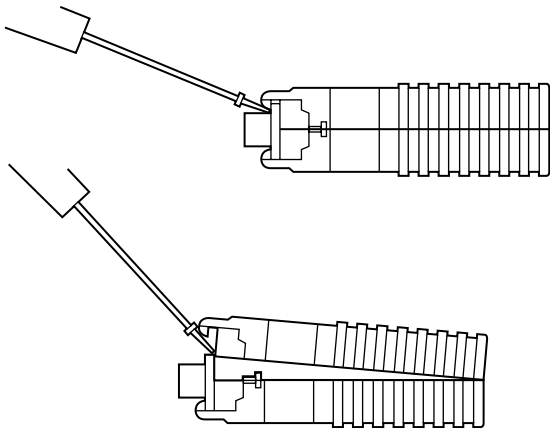

Figure 4-3. Opening the Unit.
1. Open the unit by gently inserting a screwdriver between the DB25 connector and the lip of the plastic case (see **Figure 4-3**). You don't have to worry about breaking the plastic, but be careful not to bend the D-sub connector.